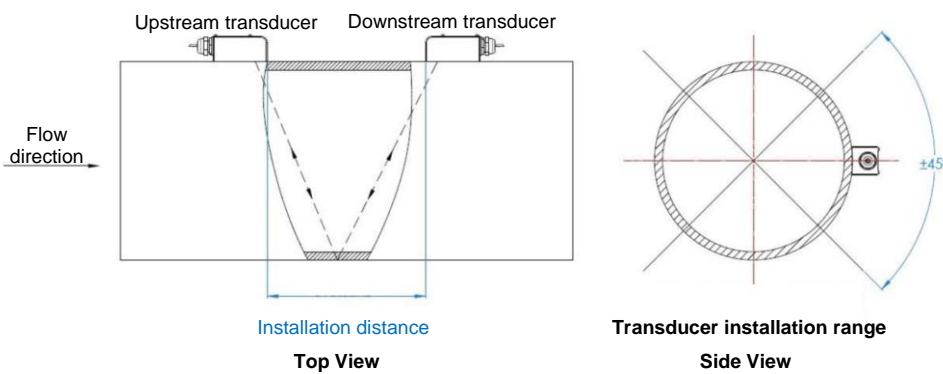

Figure 6
(Fig. 6)
- V-type installation shall be the first priority for the pipe of 40mm–200mm. The transducers shall be aligned horizontally and their transmission directions shall be arranged against each other (Figure 6).